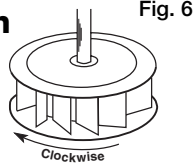
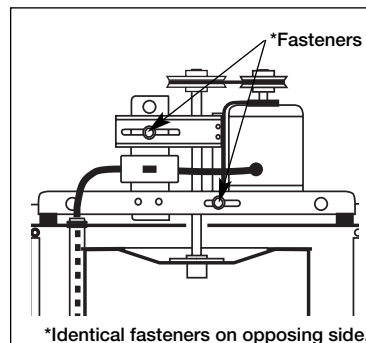

Fig. 6
Fig. 8
Direction of wheel rotation is critical. Reversed rotation will result in poor air performance, motor overloading and possible burnout. Check wheel rotation (viewing from the shaft side) by momentarily energizing the unit. Rotation should be clockwise (CW) as shown in Fig. 6 and correspond to the rotation decal on the unit.
For all CUBE units belt tension can be adjusted by loosening four fasteners on the drive frame pointed out in Fig. 8. The motor plate slides on the slotted adjusting arms and drive frame angles in the same manner. Belt tension should be adjusted to allow 1/64 inch of deflection per inch of belt span. For example, a 15 inch belt span should have 15/64 inch (or about 1/4 inch) of deflection with moderate thumb pressure at mid-point between pulleys. Refer to Fig. 6. Overtightening will cause excessive bearing wear and noise. Too little tension will cause slippage at startup and uneven wear.
Unit running backwards	Correct as shown in Fig. 6.